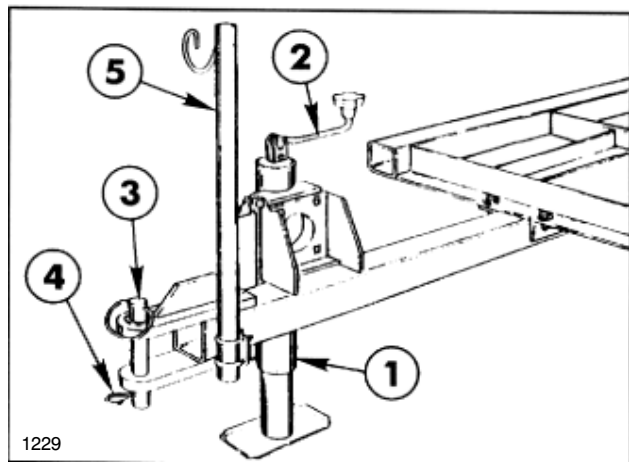

FIG. 4
8. Remove the (2) U-Bolts securing Harness Tube to the Tongue. Discard U-Bolts and Harness Tube they will not be used. See FIG. 4.